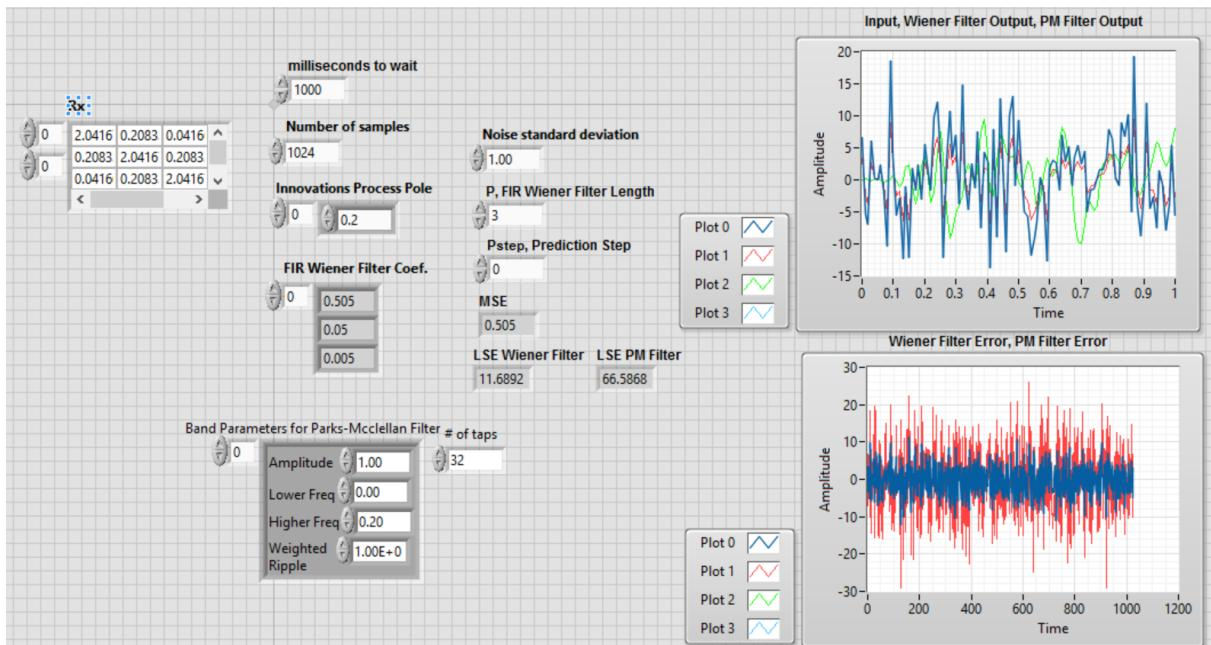

Fig. 2. Experiment 5 front panel.
The front panel for the Experiment 5 may look like the one shown in Fig. 2. The input parameters for the system are described in MATLAB section and they are the same in MyRIO implementation. “**milliseconds to wait**” is added to slow down the execution in order to have a better visualization of the waveforms. The Wiener filter coefficients are reported as in Fig.2. The theoretical MSE, LSE of the Wiener filter and LSE of the lowpass Parks-McClellan (PM) filter are shown as well. The parameters of the PM filter are also presented. The two plots show the time response of the Wiener filter as well as the error signals.